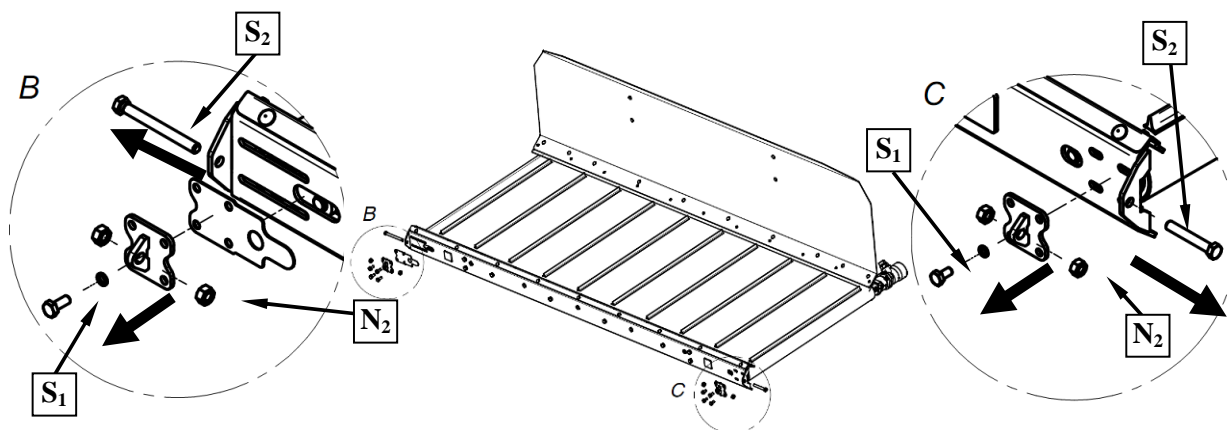

Fig. 30.
1. Loosen bolts M10 – S_1 , nuts M12 – N_2 adjustment bolts M12 – S_2 of front tensioners (Fig. 30).